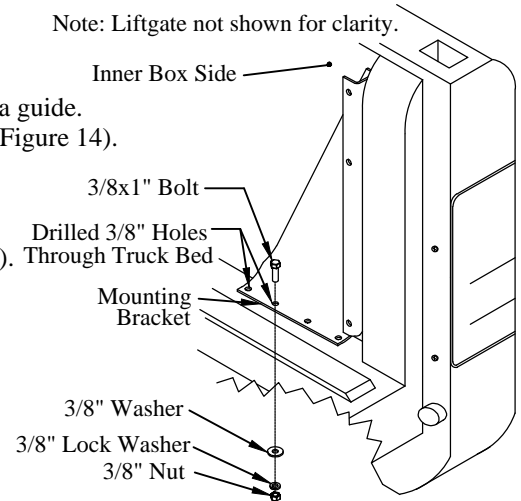

Figure 14: Mounting bracket.
Choose two of the four holes provided with no obstructions on the underside (Figure 14).
- (2) 3/8"x1" hex head bolts on the top-side (Figure 14).
- (2) washers, (2) lock washers, and (2) hex nuts on the under-side (Figure 14).